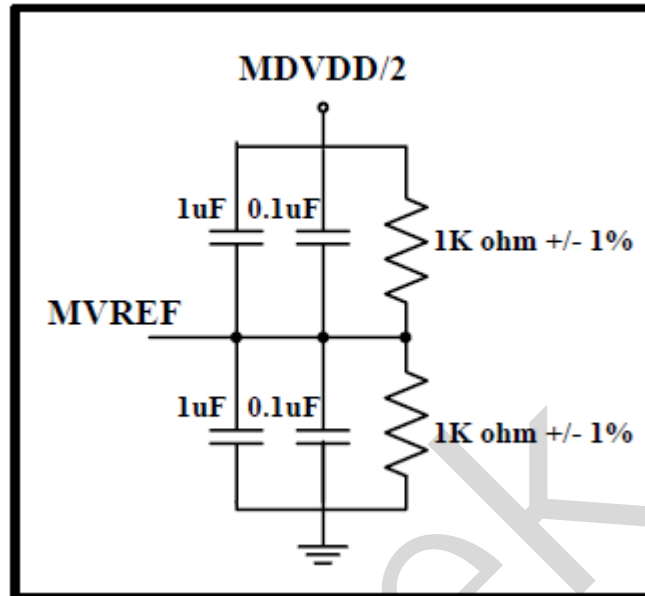

Figure 21. The scheme for MVREF Pin
- 14) The MVREF pin must be dealt as following figure to reduce the ripple of voltage (see Figure 21).